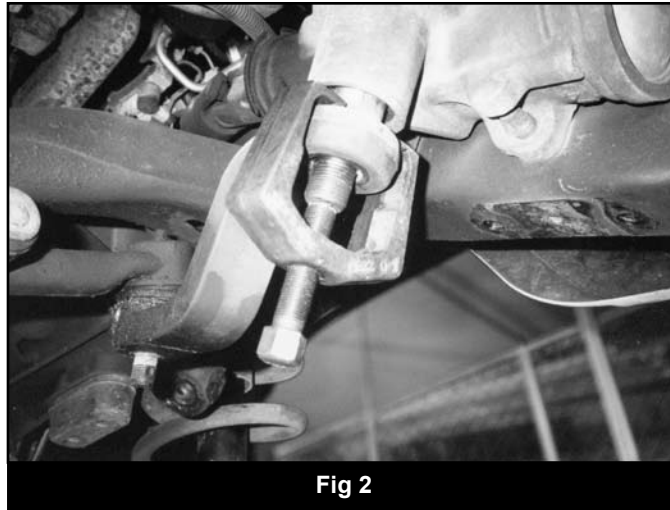

Fig 2
12. Remove the pitman arm nut from the sector shaft. Note the orientation of the pitman arm and remove the arm from the sector shaft using the appropriate puller (Fig 2).